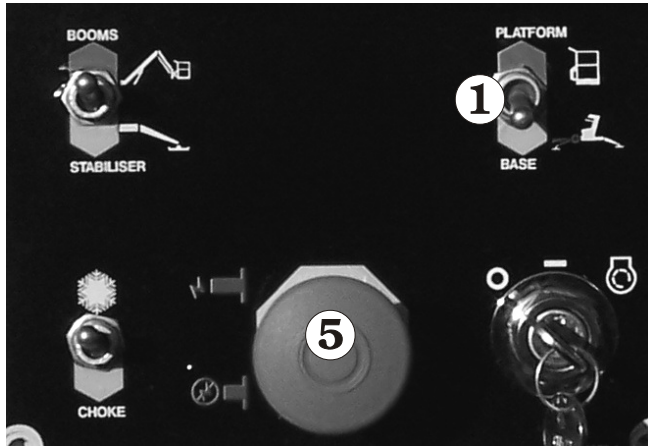

Figure 9.21 - Ground Control Switches
Pay particular attention to the Emergency Stop switch ⑤ (see Figure 9.21) to see that it turns the MHP15/44HD engine off when the red button is struck.
On the ground control box set the **Ground/Platform Selector ①** to platform (see Figure 9.21).